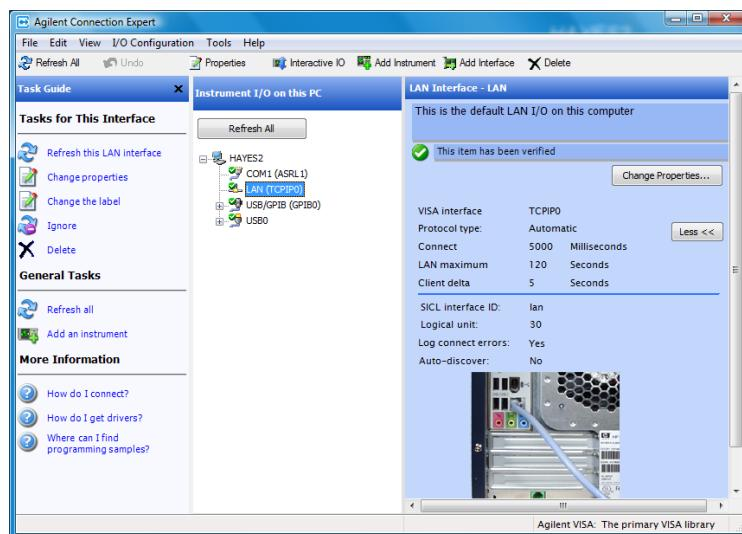

Figure 34 Agilent Connection Expert, LAN Connections
Click the Agilent IO Control icon in Windows' Notification area, and select **Agilent Connection Expert**. When the main screen appears (Figure 34), you will see a map of the system connections in the Explorer Pane, **Instrument I/O on this PC**. If the interface and instrument(s) you want to configure display in the Explorer Pane, proceed to “Step 4: Communicate with Instruments” on page 114!
- 1 From the Connection Expert main screen, select the LAN interface node in the Explorer Pane (center pane). **LAN (TCP/IP0)** is selected in Figure 34. Right-click to get a menu and select **Add Instrument**. (Alternatively, you could click the **Add Instrument** button on the tool bar, the Task Guide, or the I/O Configuration menu.)